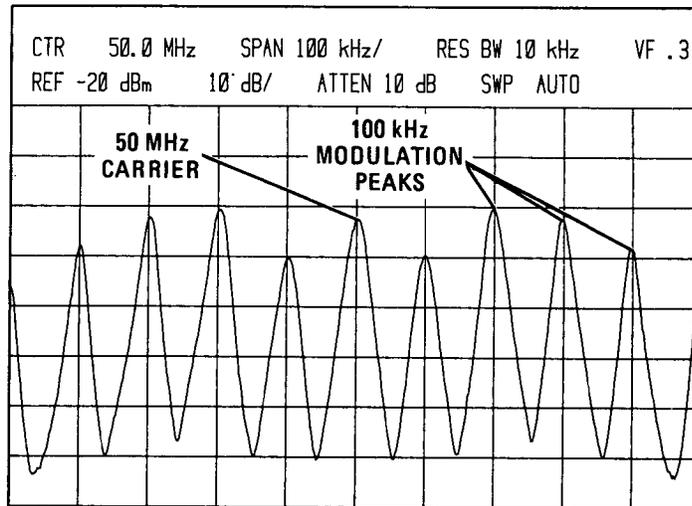

Figure 5-42. Spectrum Analyzer Plot with 100 kHz FM
10. Adjust PEAK DEVIATION of signal generator to display a total of 10 modulation peaks plus carrier, as shown in Figure 5-42.